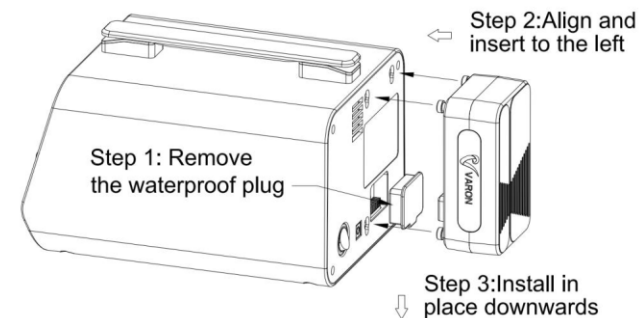
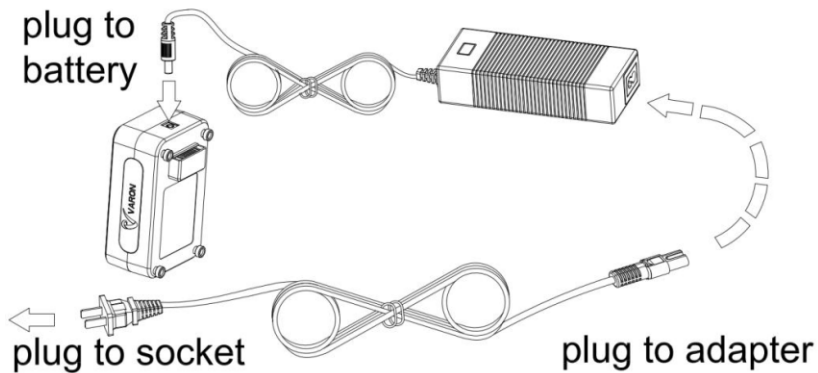

Figure 4 - Battery Installation Diagram
Figure 7 - Diagram of Separate Battery Charging
- As shown in Figure 7, connect the AC adapter to charge the battery;
- Refer to the battery installation method in Figure 4, perform the reverse operation to remove the battery. Then, connect the AC adapter following the guidance in Figure 7 for battery charging. The power indicator on the AC adapter will illuminate in red, indicating that the battery is charging. If it turns green, it signifies that the battery is fully charged.